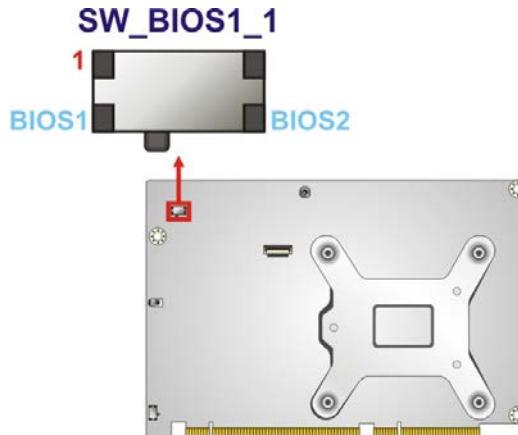

Figure 4-16: BIOS Switch Location
Step 2: Switch BIOS1 to BIOS2 or BIOS2 to BIOS1 by moving the BIOS switch to BIOS1 or BIOS2 position as shown in **Figure 4-16**.